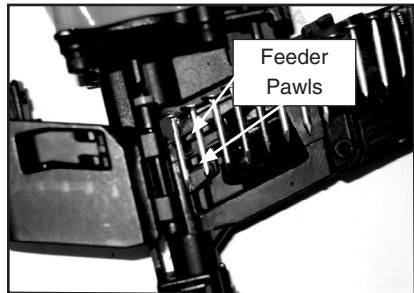

Figure 9. Putting the nails in firing position.
- Place a coil of nails in the magazine, position the first nail in the pawls of the feeder as shown in **Figure 9**, then close and latch the magazine cover.